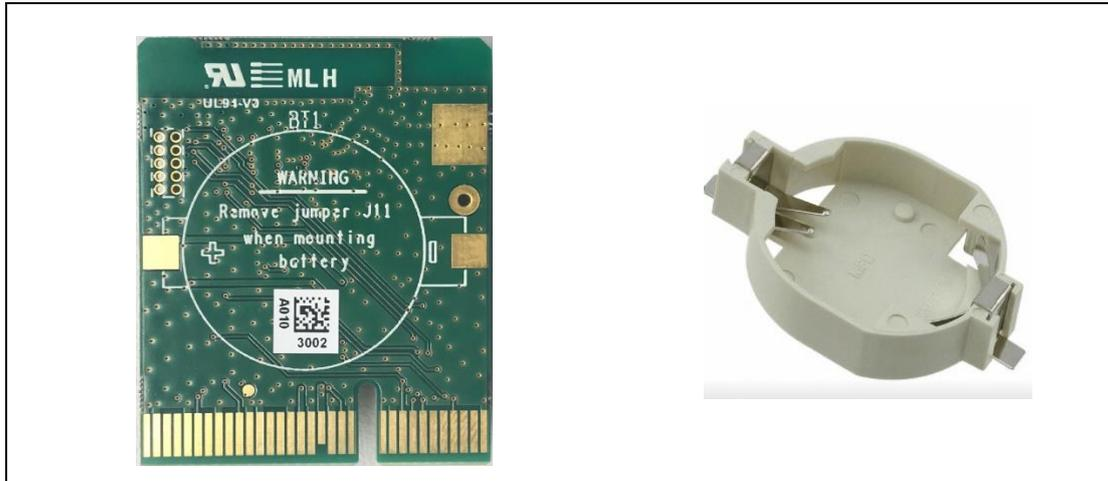

Figure 31: BT1 Position (Left). Battery Holder, BC2032-F1, to Be Soldered (Right)
- Solder the battery socket on the solder side (BT1) by using BC2032-F1 (see Figure 31)
- On DA14531 PRO-DB: ensure that no battery is inserted in BT1 (see Figure 31)